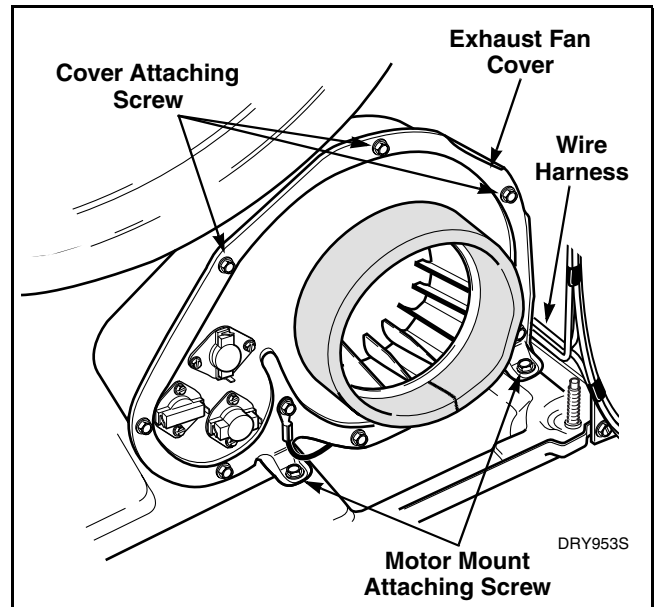

Figure 20
IMPORTANT: When reassembling be sure felt seal on exhaust fan cover makes air tight seal on flange of air duct. Refer to *Figure 20*
NOTE: When reassembling, be sure felt seal on exhaust fan cover makes air tight seal on flange of air duct. Refer to *Figure 20*.
- e. Remove hex head screws holding cover to housing. Refer to *Figure 20*.
- f. Remove two screws holding motor mounting bracket to dryer base. Refer to *Figure 20*. Then pull complete assembly out through front of dryer.
IMPORTANT: When reinstalling motor and exhaust assembly, be sure wire harness on right side is clipped to motor mounting bracket and is routed along dryer base (between motor mounting bracket and right side of cabinet). Refer to *Figure 20*. Tab on rear of motor mounting bracket must be slid into slot in dryer base. Exhaust duct **MUST BE** reinstalled on rear flange of exhaust housing.